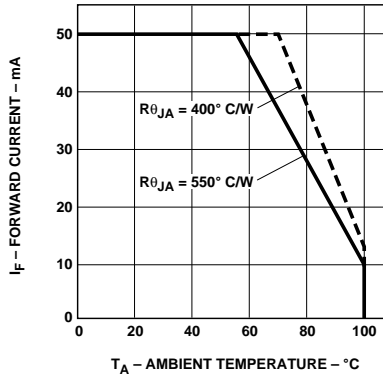

Figure 12. Maximum Forward Current vs. Ambient Temperature. Derating Based on T_J Max = 110°C.
- Derate linearly as shown in Figure 12.